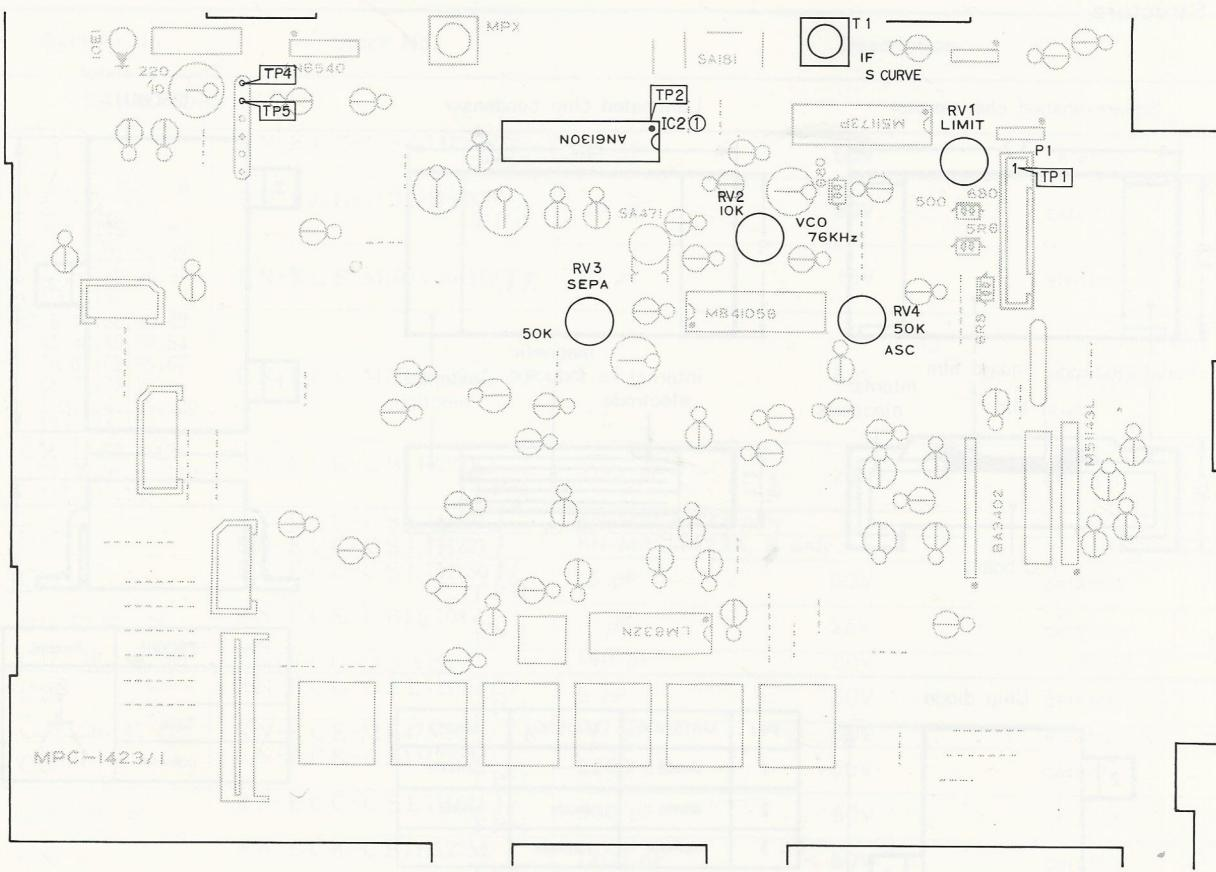

Fig. 21 (C33156530)
(2) Alignment (Refer to Fig. 21 for ADJUSTMENT POINTS.)
(1) Connections a. Stereo signal generatorANT. JO
(2) Alignment (Refer to Fig. 21)